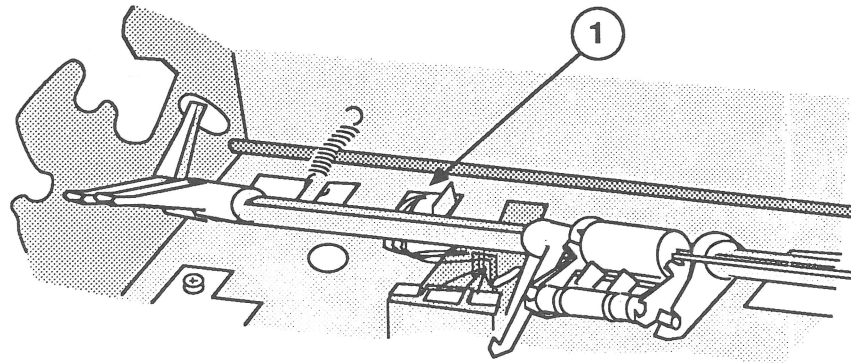

FIGURE 25
1. Route the paper-out sensor cable through the cut out in the mechanical assembly (Figure 25, #1).